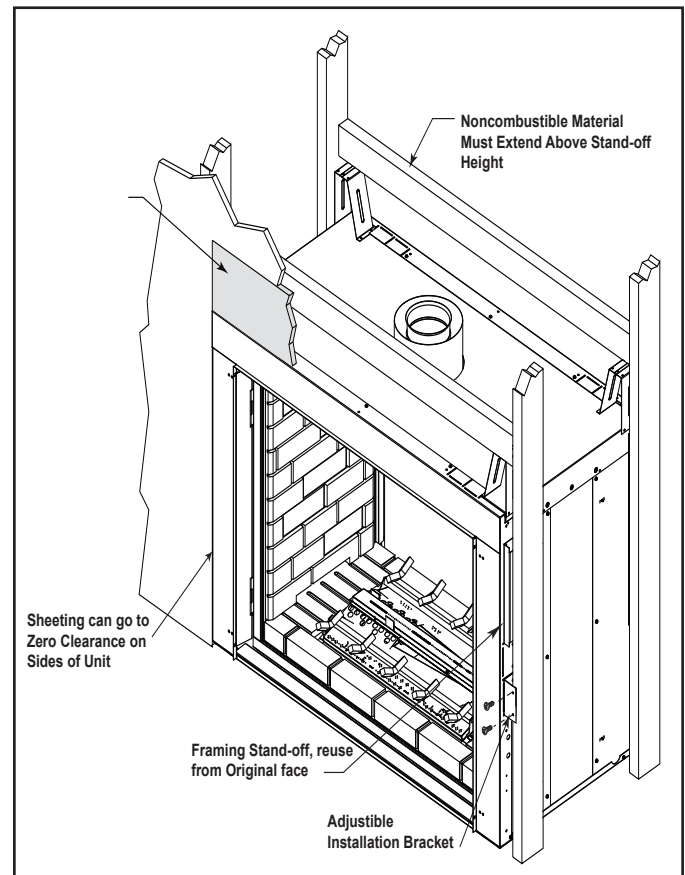

Figure 10.2
1. Install installation brackets and framing stand-offs. Installation brackets can be positioned to accommodate the thickness of the outer wall sheeting. Framing stand-offs can be oriented in two (2) positions according to the location of the fireplace relative to the wall framing. See Figure 10.2.